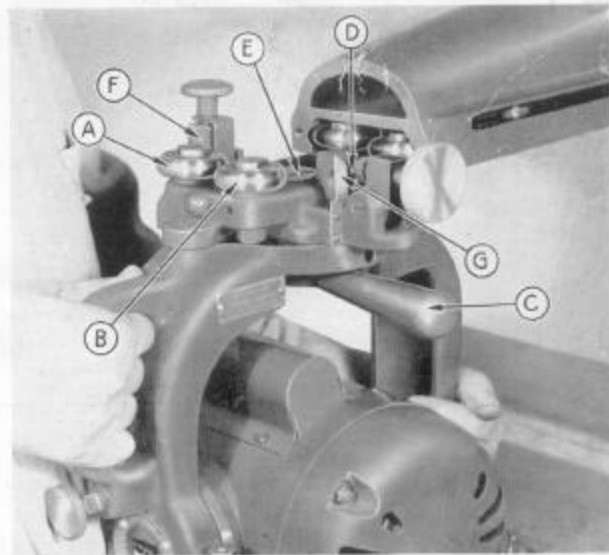

FIGURE 1
Refer to Figure 1. Take the saw carriage with ball bearings . . . holding the yoke handle with your right hand and the rear yoke trunnion with your left hand for easiest handling. After you have inserted the first two ball bearings on the rollways . . . make certain that the "C" type rip lock clamp (D) is "in line" to follow them on the tracks inside the arm. After the "C" rip lock clamp is on the tracks, the other two ball bearings follow. Replace arm end plate and stop bolt in the front of the arm. The saw carriage is now confined within arm track travel.